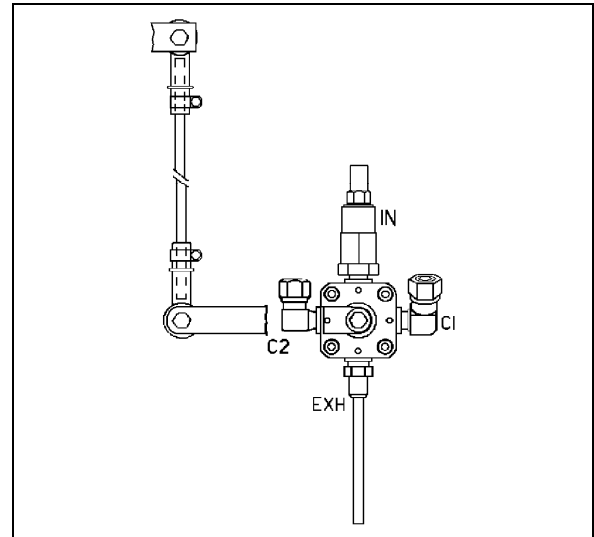

FIGURE 25: FRONT HEIGHT CONTROL VALVE 16100
2. Loosen the clamp on the height control valve rubber coupling and bring it up or down (Fig. 25).